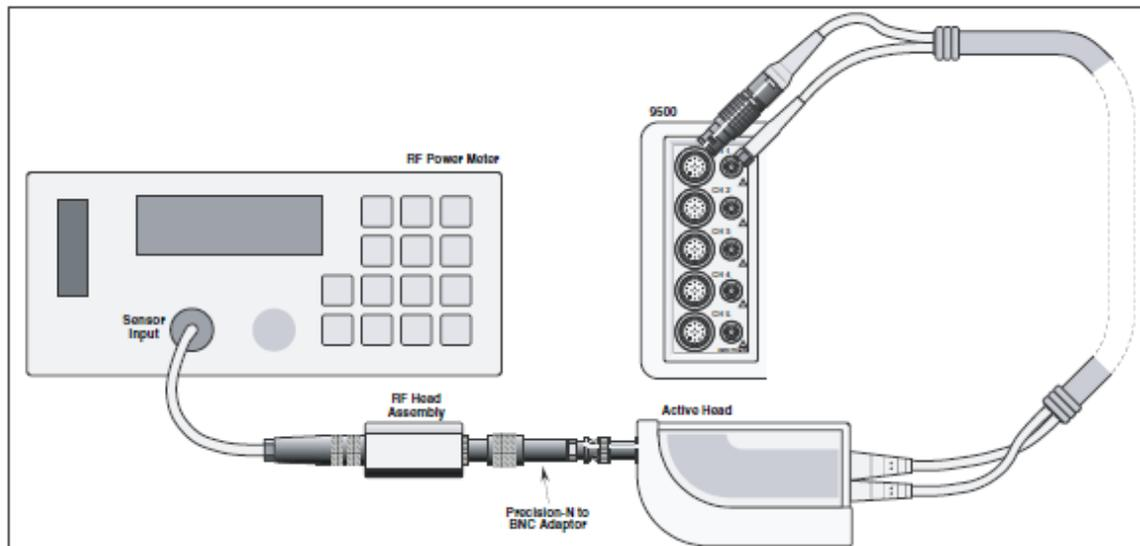

Figure 10. RF Sine Voltage Verification — Interconnections
1. Connections: Ensure that the 9500B is connected to the RF Power Meter as shown in Figure 10 and that both instruments are powered on and warmed up.